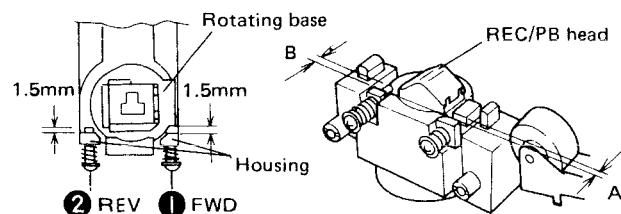

Fig. 12-2 Azimuth adjustment point
- Using a screwdriver as shown in Fig. 12-2, adjust gap A between the housing and the revolving base to 1.5mm by turning screw ①.
- Using the screwdriver again, adjust gap B between the housing and the revolving base to 1.5mm by turning screw ②.